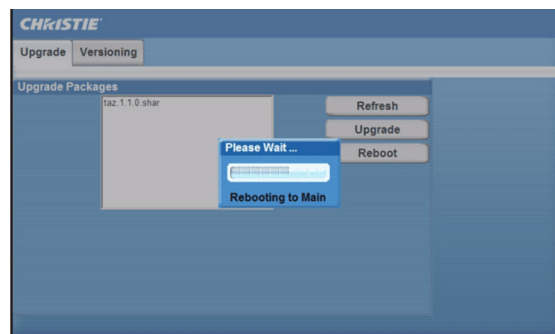

Figure 3-41 Failsafe Web Application
- Click **Reboot into Failsafe**. It takes approximately 1 minute for the projector to enter failsafe mode. At this time, the interface will refresh and a Failsafe web screen will appear (**Figure 3-41**). **NOTE:** *The CDP will also display "Failsafe".*
- a. From the Failsafe web screen, click **Reload** to display the .shar upgrade package that was transferred to the projector in the above step. The .shar file will appear in the **Upgrade Packages** region, as shown in **Figure 3-41**.
- 1. Perform the regular software load to go from v2.x to v1.1. Once the downgrade is complete, reboot the projector by clicking the **Reboot** button in the failsafe web application. (**Figure 3-41**).